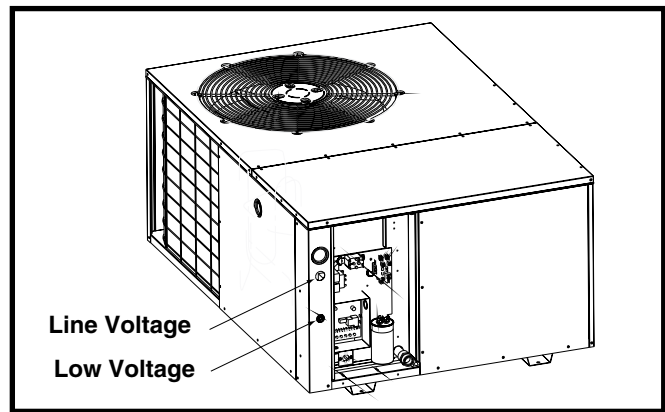

Figure 7. Power Entry
- Provide power supply for the unit in accordance with the unit wiring diagram, and the unit rating plate. Connect the line-voltage leads to the terminals on the contactor inside the control compartment. Extend leads through power wiring hole (Figure 7). Connect L1 & L2 directly to the contactor.
- The low voltage wires must be properly connected. Route 24V control wires through the sealing grommet near the power entrance. See Figure 7. Recommended wire gauge and wire